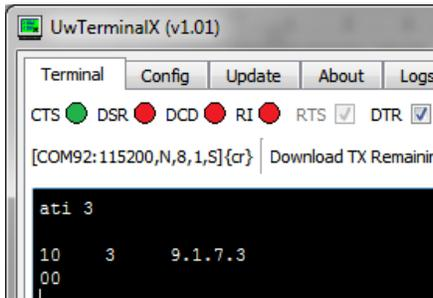

Figure 4: BT900 firmware version
9. Type **AT I 3** and press **Enter** to confirm the module is accessible. Module will return the firmware version as shown in Figure 4 if it is accessible.